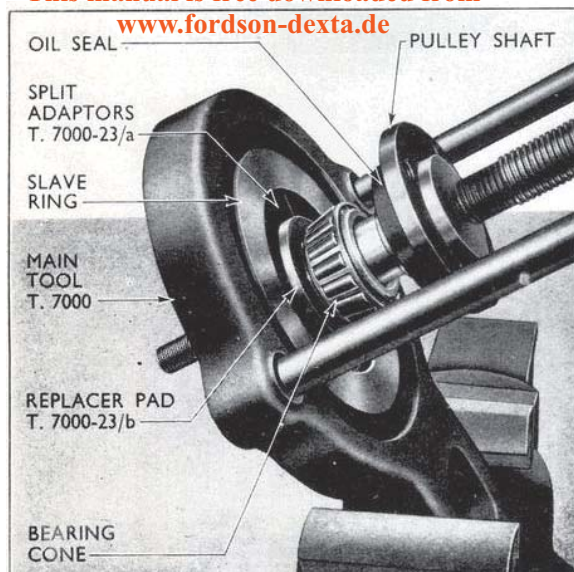

Fig. 15
7. Install the pulley shaft oil seal, plain face of the seal adjacent to the pulley securing flange of the shaft then fit the pulley shaft outer bearing cone using Main Tool T.7000 with slave ring and split adaptors T.7000-23/a. Position the replacer pad T.7000-23/b on the split adaptors, parallel spigot of the pad located in the counterbore of the adaptors and install the pulley shaft outer bearing cone on the replacer pad so that its small diameter end is adjacent to the pad. Fit the pulley shaft to the tool so that it is located in the bearing cone and turn the tool centre screw to press the cone fully into position on the shaft (see Fig. 15).